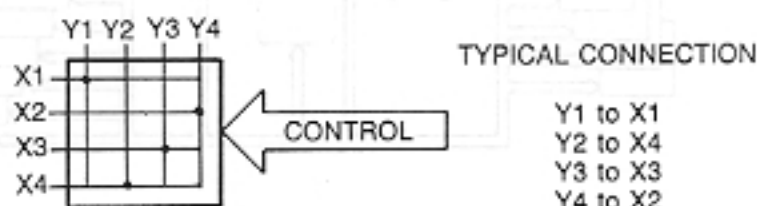

Figure 8-9 CROSSPOINT MATRIX, TCX-128
3.20 All analog (voice) switching is done in crosspoint matrixes, which are electronic switching circuits controlled by digital signals. Depending on the state of the digital control signals, any input can be connected to any output. A typical crosspoint arrangement is shown in Figure 8-9. In the TCX-128, the crosspoint matrixes on the B-TGU-B PCB are controlled by the Matrix Control decoder, which is in turn controlled by the 280 data bus. There are three crosspoint matrixes: the DTMF/Tone Matrix, the Page Matrix and the Dial-up Line Matrix.